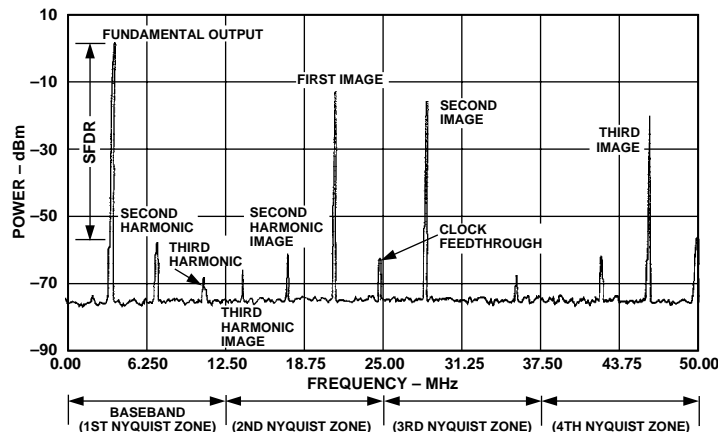

Figure 4. Different error effects in the output spectrum of a DAC.
leaving “nulls” of very weak image energy around the integer multiples of the clock frequency. Most DAC outputs will feature some degree of clock feedthrough, which may exhibit itself as spectral energy at multiples of the clock. This produces a frequency spectrum like the one shown in Figure 4.
to measure the dynamic performance of D/A converters in the frequency domain (see Figure 4):
- *Spurious-free dynamic range* (SFDR)—the difference in signal strength (dB) between the desired signal (could be single tone or multi-tone) and the highest spurious signal in the band being measured (Figure 4). Often, the strongest spurious response is one of the harmonics of the desired output signal. In some applications, the SFDR may be specified over a very narrow range that does not include any harmonics. For narrowband transmitters, where the DAC is processing a signal that looks similar to a single strong tone, SFDR is often the primary spec of interest.